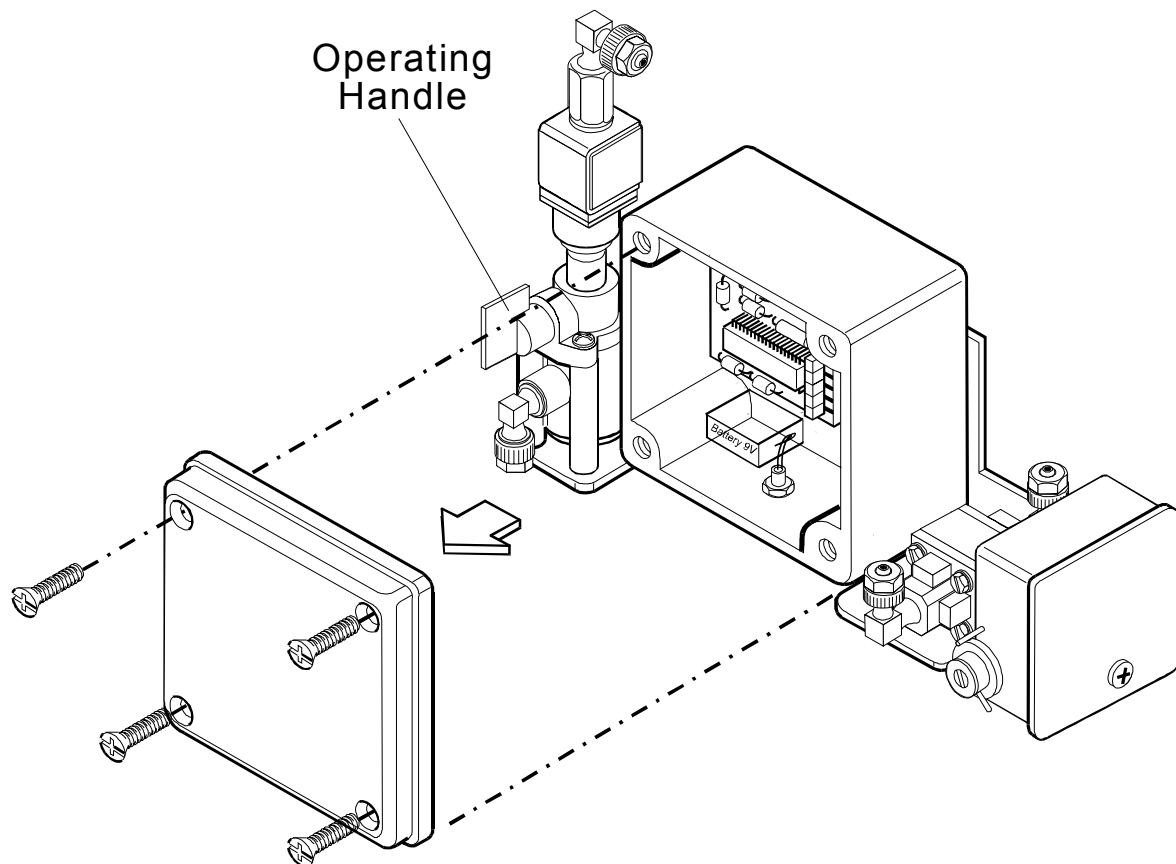

Figure 3: Battery Removal & Installation
8. Perform an additional flushing cycle manually by operating the handle (rotate clockwise) located on the solenoid (See Figure 3).
9V Battery Removal & Installation (Figure 3)